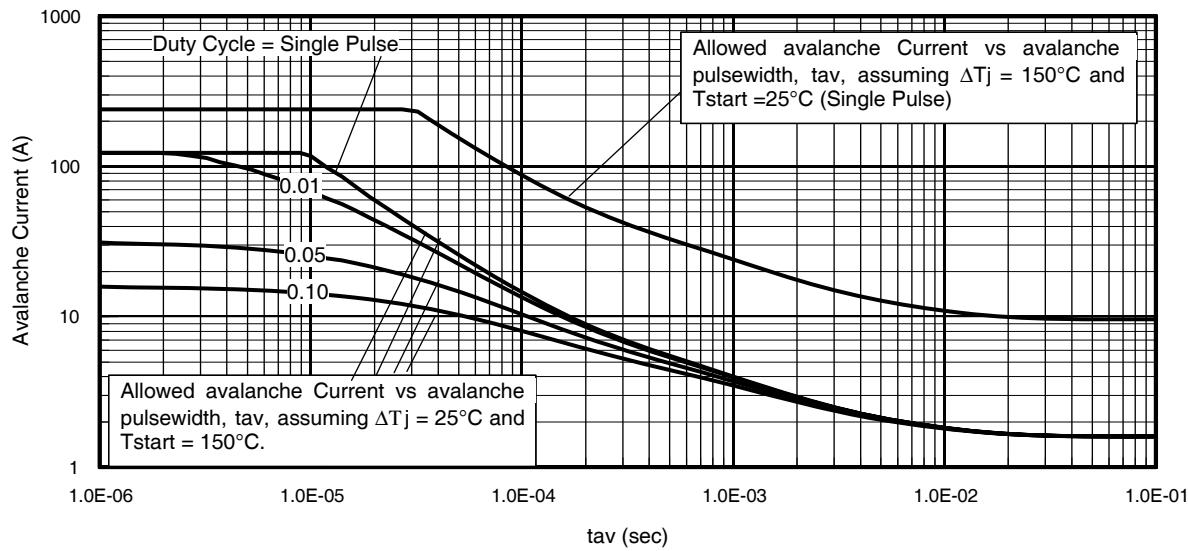

Fig 14. Typical Avalanche Current vs.Pulsewidth
Notes on Repetitive Avalanche Curves , Figures 14, 15:
7. ΔT = Allowable rise in junction temperature, not to exceed T_{jmax} (assumed as $25^\circ C$ in Figure 14, 15).